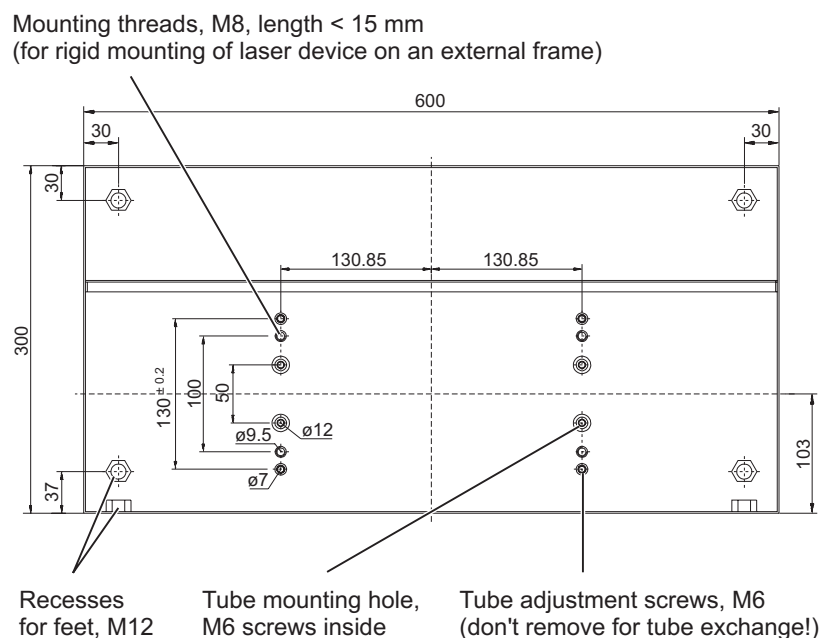

Figure 18: Bottom view of the OPTex
c. The laser device is tiltable by 90° to the side. In upright position, the bottom side is provided with location holes (M8, see Figure 18).